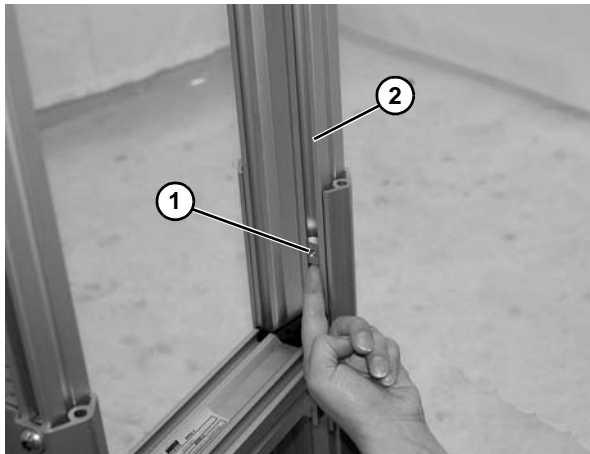

Figure 13
2. Install T-bar (Figure 13, item 1) in inner T-slot of stand leg (Figure 13, item 2).